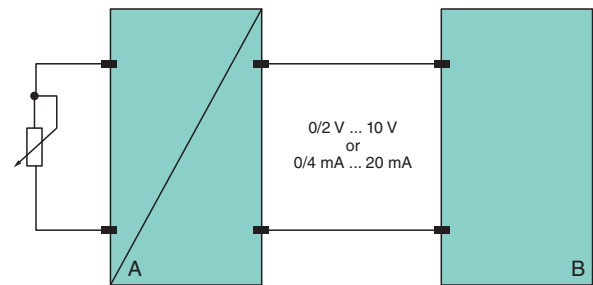

Figure 44 Conversion of sensor signals into standard signals
Measurement value signals are converted into standard signals via signal converters. Figure 44 shows a signal converter (A) which converts a resistance signal into a standard signal for further processing in control (B). If the sensor and signal converter form a single unit, they are referred to as a transmitter.